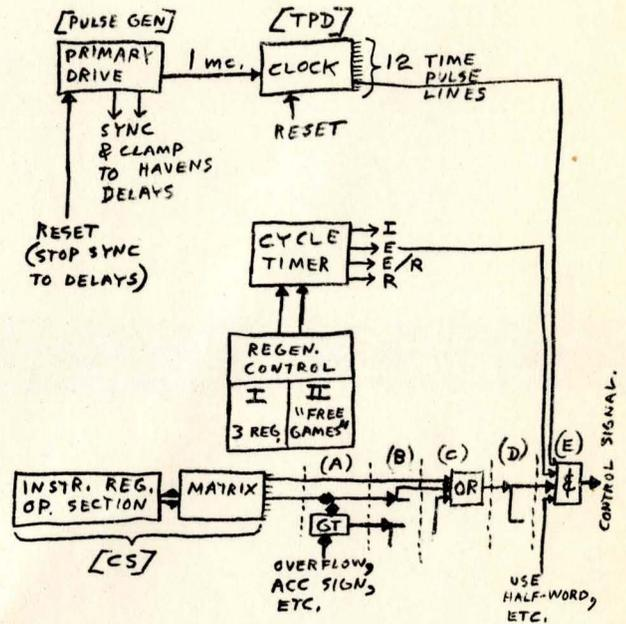

Figure 8. Outline of Control.
The general outline of [central control] is shown in Figure 8. A clock distributes 12 time pulses. A cycle timer determines the kind of cycle, with the regeneration control telling whether an R is needed or not. The INSTRUCTION REGISTER [CS] tells what operation to perform. These three kinds of signals are combined with other conditions within the machine to provide control signals.
The general method of obtaining control signals was mentioned in section 3.1, and sketched in Figure 8. Notice that the output lines from the MATRIX cs do not go to a control matrix but to a system of AND and OR gates, called EXECUTION CONTROLS and EXECUTION CONTROL MIXERS. Roughly five sections to these circuits can be recognized: (A) a MATRIX line is combined, if necessary, with other conditions in the computer to find out what kind of instruction is called for. (B) The resultant signal is sent to the various OR circuits which control the kinds of commands required.